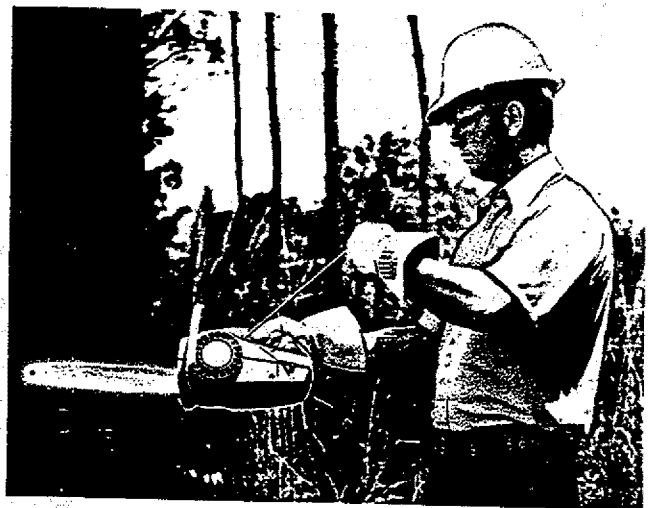

Fig. 5
4. **STARTING** (This is the recommended starting position) See Figure 5. Hold saw away from body with right hand and elbow slightly bent, see Fig. 5. Squeeze trigger. Push saw straight away from body and at same time pull starter handle. Repeat action until engine fires. Push choke off (to left) and repeat starting procedure until engine runs. Hold on to starter handle while allowing the rope to rewind. **DO NOT PULL STARTER HANDLE OVER 12" TO 14" FROM ENGINE.**